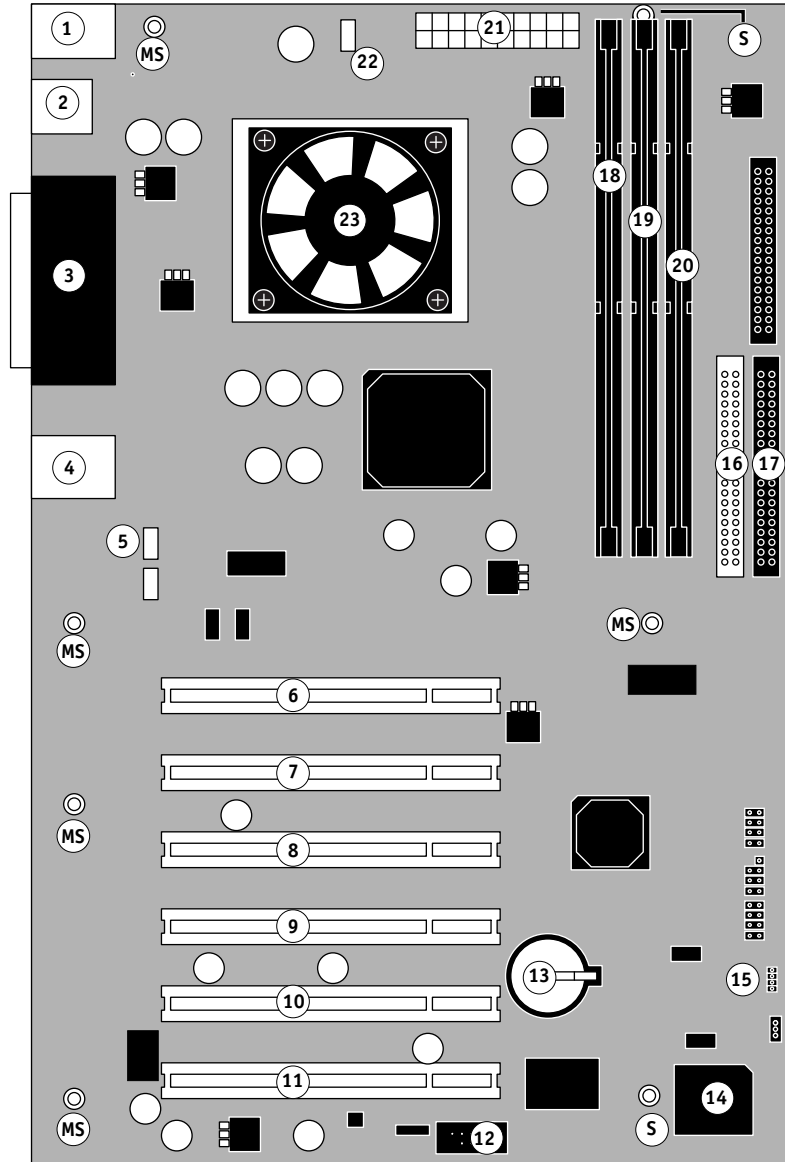

FIGURE 4-16 Diagram of the Pi8500Pro motherboard
2. Remove the 5 mounting screws on the motherboard (see Figure 4-16 on page 4-23 for screw locations).